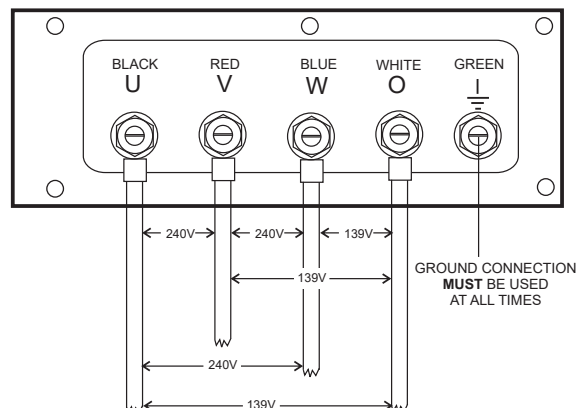

Figure 20. UVWO Terminal Lugs (3-Phase 240/139-Volt Connections)
2. Connect the load wires to the **UVWO terminal lugs** as shown in Figure 20.